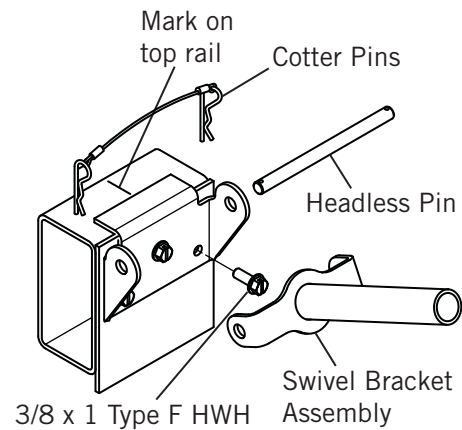

Figure 29
- 2) **Figure 29.** Drill a pilot hole and attach with 3/8 x 1 type F HWH bolts. Repeat for opposite side.
- 3) **Figure 29.** Attach swivel bracket assembly to base with headless pin and cotter pins.